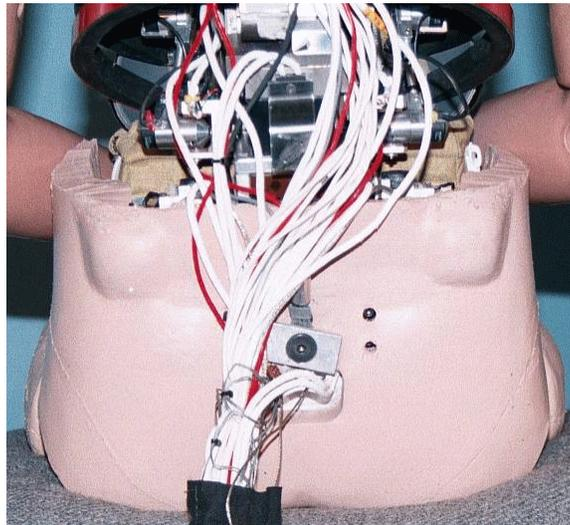

Figure 15.3- Wire bundle secured in mesh
2. Position the bundle of instrumentation wires in the strain relief mesh, and secure the mesh using several zip-ties as shown in **Figure 15.3**.